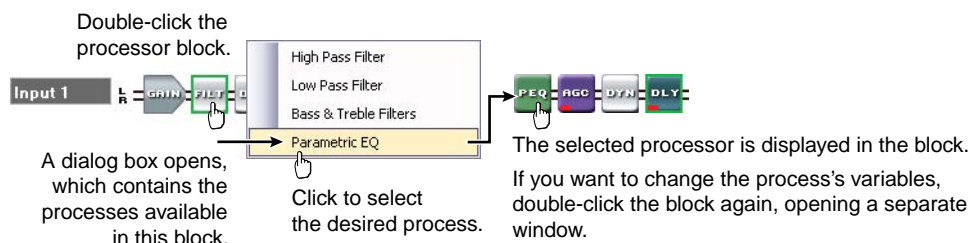

Figure 5-5 — Selecting a typical processor block dialog box
Each of the four signal processing chains (①, ②, ④, and ⑥) consists of a series of control blocks of two basic types that are specific to that chain: gain, trim, post-gain, and volume control blocks (collectively known as “gain blocks” – ) and processor blocks (). For example, the computer audio input 1 chain consists of a gain fader, a filter block, two dynamic blocks, a delay block, and a trim fader. Gain controls are always present (active) in the signal processor chain. Processor blocks, while always shown in the program window, must be individually activated (“inserted”) as shown in figure 5-5.
Processor blocks — Each processor block control represents a menu of one or more possible processes (such as filters) that can be inserted into the audio stream. For blocks that provide more than one processor, only one processor can be selected. Each block can be inserted by a double-click or right-click >Insert and selecting the desired processor (figure 5-5). Once a block is inserted, the selected processor is displayed in the block and the block itself changes color.